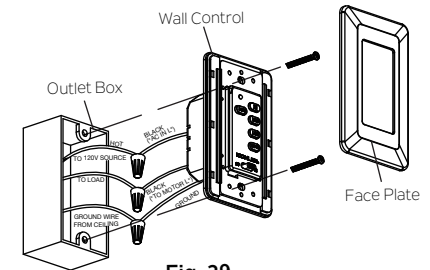

Fig. 29
**Step 2.** Place the wall control to the outlet box, connect the wires with wire connectors provided. (Fig. 29)
**Step 3.** Secure the wires connections and make sure there are no loose strands or connections. Put wire connections back inside outlet box and secure the wall control to outlet box with screws provided. Snug the face plate to wall control. (Fig. 29)